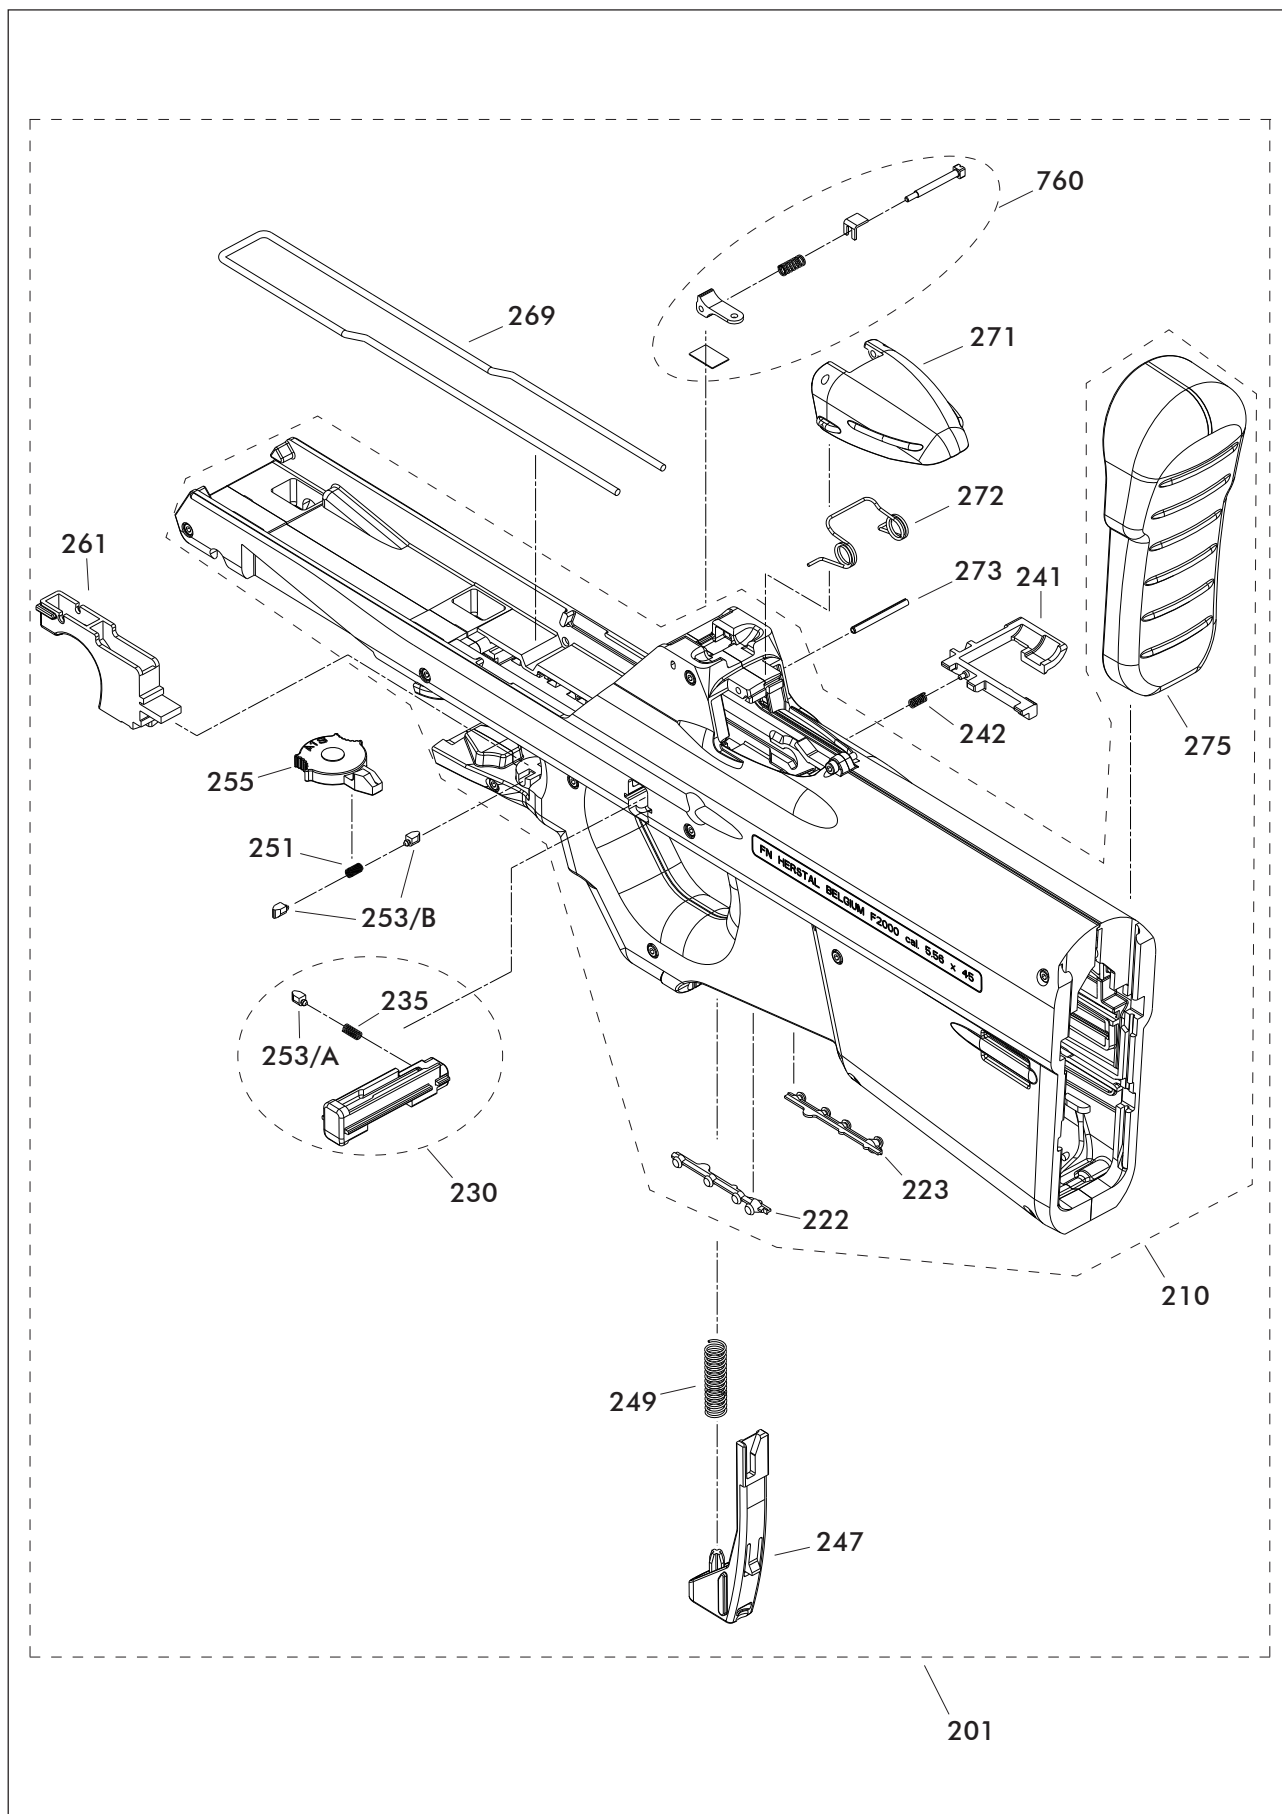

Fig. 2.c - Receiver assembly (201)
The stripping pin is used to lock the barrel support assembly (110 - see figure 2.b) onto the receiver assembly (201).
- The catch, magazine (241) located at the right side of the receiver (210).
The catch, magazine (241) locks the magazine (601 - see figure 2.g) into the receiver assembly (201).